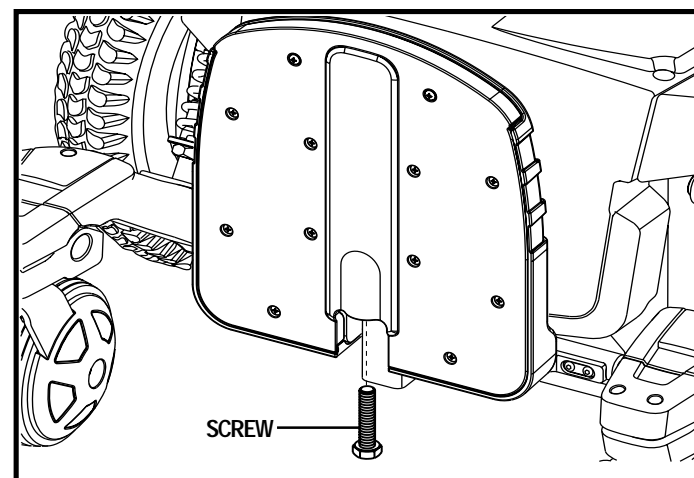

Figure 23. Underside of Foot Platform
1. Flip up the foot platform and locate the screw. See figure 23.